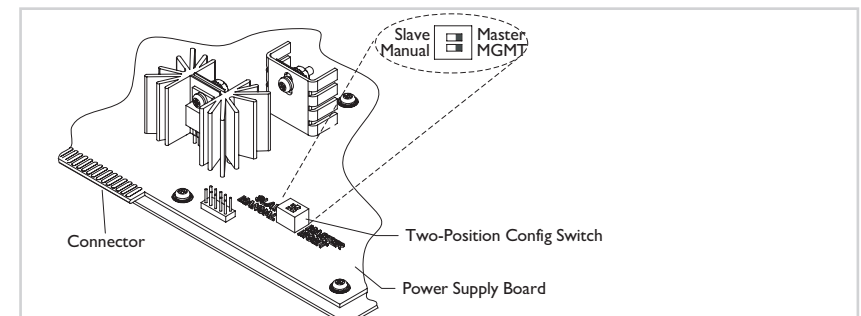

Figure 12: Power Supply configuration Switch
1. Set up the configuration switch shown in Figure 12. See page 5 for details.